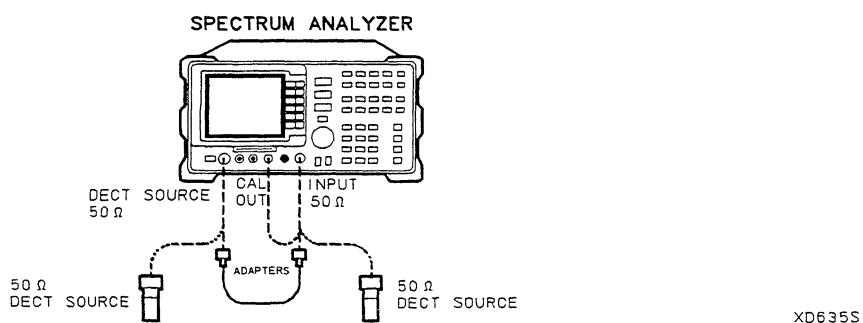

Figure 9-6. Tracking Generator Feedthrough Test Setup
1. Connect the 23 cm BNC cable between the DECT SOURCE $50\ \Omega$ and INPUT $50\ \Omega$ connectors on the spectrum analyzer, using the N(m) to BNC(f) adapters. Refer to Figure 9-6.